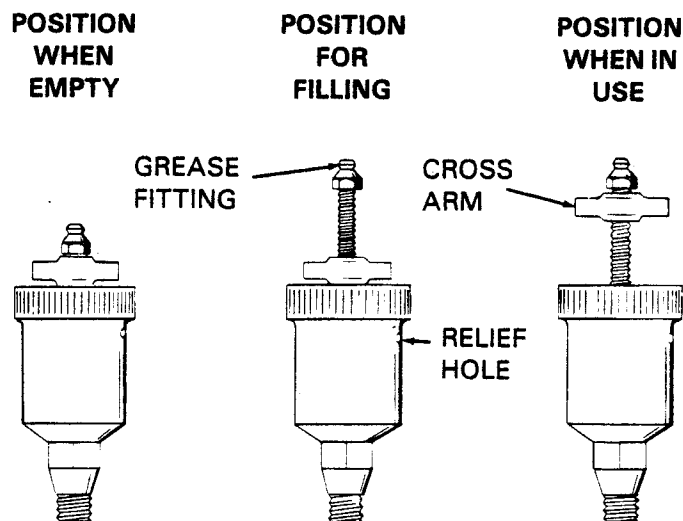

Figure 4. Automatic Lubricating Grease Cup
Before removing the seal assembly, turn the cross arm on the seal grease cup (11) clockwise until it rests against the cover (see figure 4). This will prevent the grease in the cup from escaping after the seal is removed.
Before starting the pump, fill the seal grease cup through the grease fitting with a good grade of No. 2 pressure gun grease until grease escapes from the relief hole. Turn the grease cup arm counterclockwise until it is at the top of the stem; this will release the spring to apply grease to the seal (see figure 4).